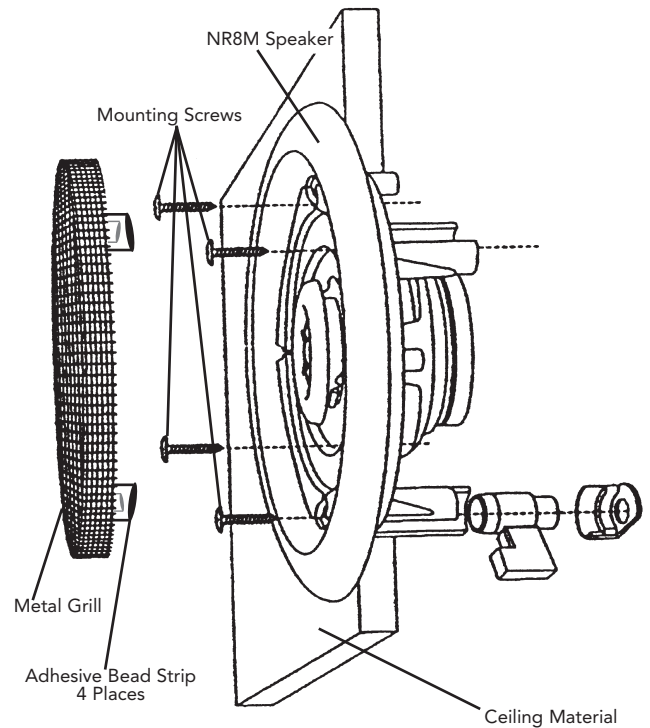

FIGURE 2
**Step 3** Remove grill cover from speaker. Use four screws provided to fasten speaker to the opening in ceiling. Install the speaker in the ceiling opening, as shown in figure 2. Turn the mounting clamp screws clockwise until the speaker is secure. **DO NOT OVER TIGHTEN** the screws. This can damage the speaker and/or the ceiling material and make the metal grill difficult to install.
**Step 4** Divide each adhesive bead strip in half. (Adhesive bead strips are in clear plastic self closing bag). Place strips on edge of grill as shown in figure 2. Reinstall grill on speaker.